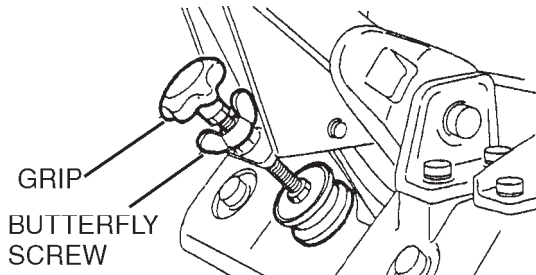

Figure 8. Handle Adjustment
1. Loosen the butterfly screw (Figure 8).